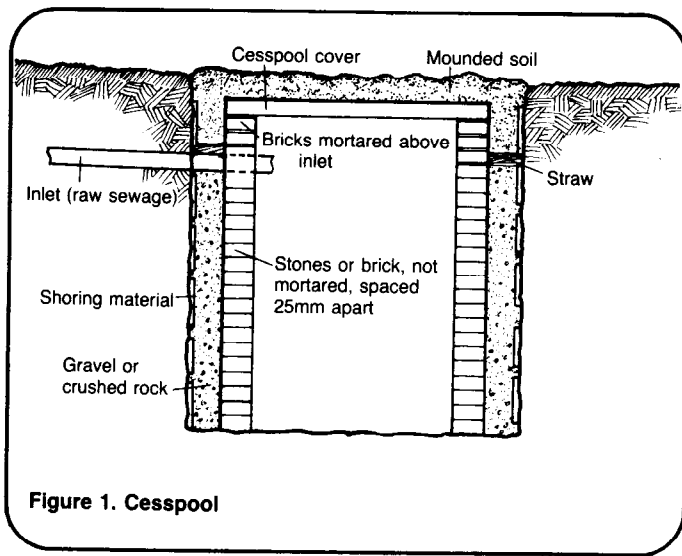

Figure 1. Cesspool
1. Cesspool. Cesspools, shown in Figure 1, are covered pits, with open-joint or perforated walls, that receive sewage. A cesspool is the least expensive and easiest to construct combined disposal system. Its main features are the inlet and the pit. Sometimes an outlet pipe equipped with a "T" fitting and leading to a subsurface absorption field is added.